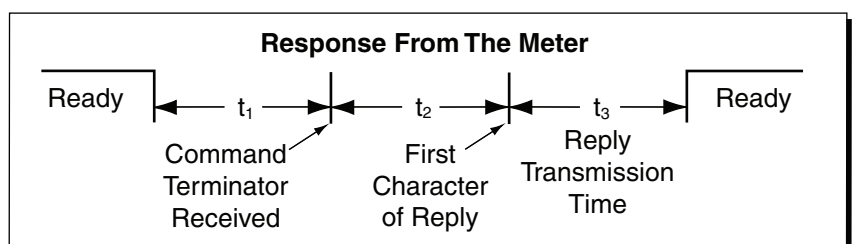

Figure 3 – Timing Diagram
See Figure 3. At the start of the time interval t_1 , the sending device (PC) prints or writes the string to the com port, thus initiating a transmission. During t_1 the command characters are under transmission and at the end of this period the command terminating character is received by the meter. The time duration of time interval t_1 is dependent on the number of characters and baud rate of the channel: